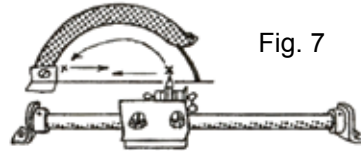

Fig. 7
- Rotate the blade (Fig. 7) rearward so pencil mark shows above the table.